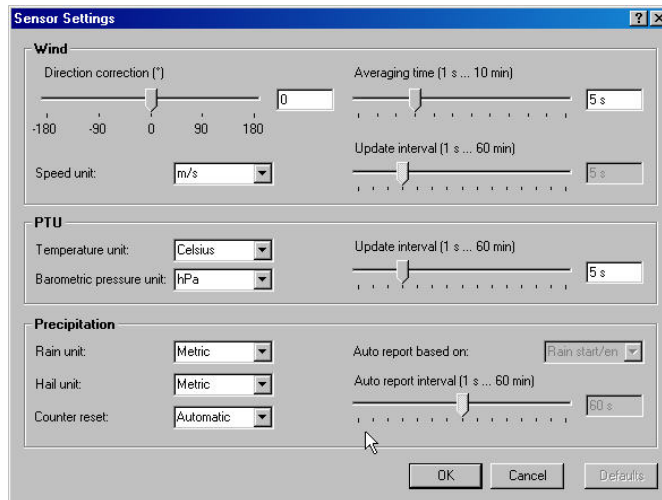

FIGURE A-3. Sensor Settings Screen
8. Go to the Sensor Settings Screen (see Figure A-3). The default Wind and PTU Update intervals are set to 5 s.